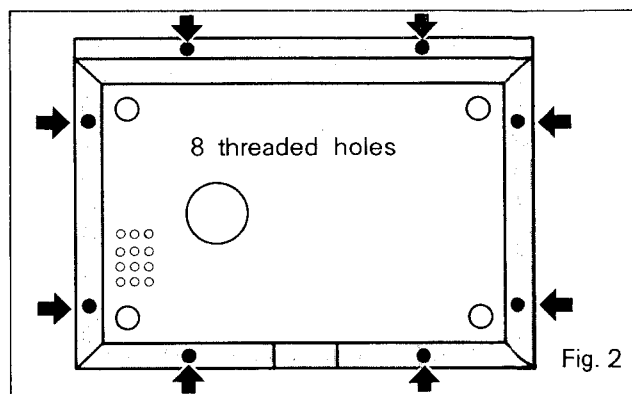
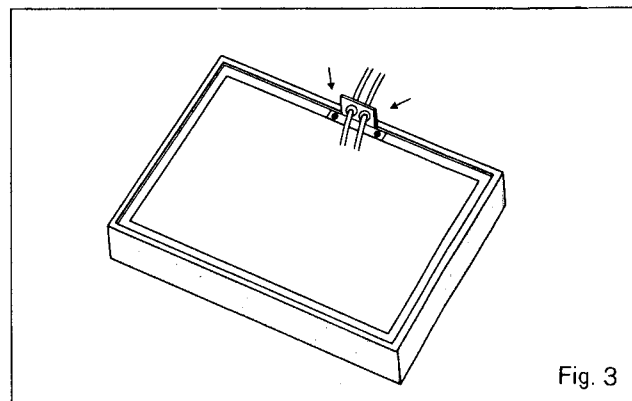
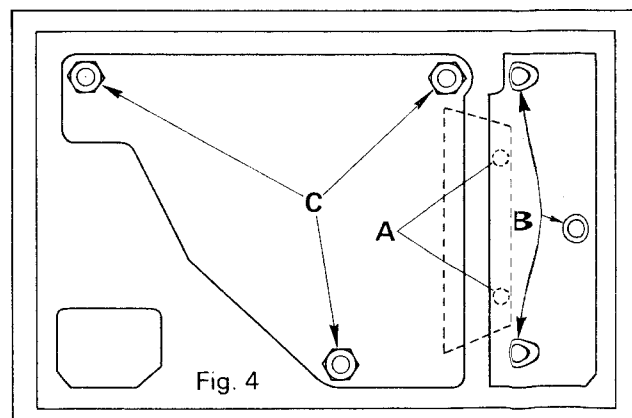

Fig. 2
Fig. 3
Fig. 4
- (1) Remove with a Phillips-head screwdriver the eight screws which hold the bottom base. (Fig. 2).
- (2) Remove the arm support.
- (3) Pull out the speed change lever and cueing (lifter) lever.
- (4) Remove the four red screws.
- (5) Remove the shield case.
- (6) Disconnect from the lug terminal plate the five leads coming from the tone arm.
- (7) Loosen the screw of the switch arm. Remove the tone arm fixing nut and remove the tone arm.
- (8) Remove the terminal angle A from the cabinet.
- (9) Remove the two screws which hold the cord mounting plate of the cabinet (Fig. 3).
- (10) Remove the arm rest fixing nut. And pull out the arm rest.
- (11) Turn the set over and remove nuts C shown in Fig. 4.
- (12) Remove the suspension spring and cushion rubber.
- (1) Remove the two screws A shown in Fig. 4 and pull out the speed change lever.
- (2) Remove the three E type washers B shown in Fig. 4 from the bottom of the cabinet.
- (1) Place the set with the bottom base removed on a stable table, set the turntable, the turntable sheet and a record, and adjust the height and level of the turntable with the nuts **C** in Fig. 4 to the dimensions shown in Fig. 6.